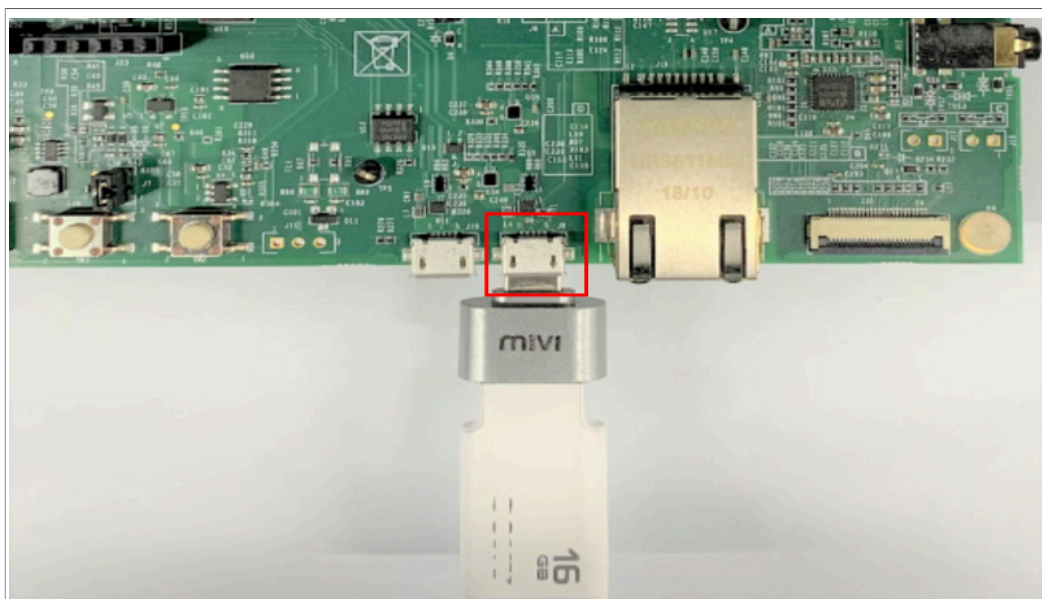

Figure 1. USB stick plugged in i.MXRT1060 EVK board
- Plug the USB stick in the USB OTG (J9) slot which is located beside the Ethernet slot on i.MX RT1060 EVK board. Since J9 is a Micro USB slot, use a USB stick with a Micro USB to USB converter. J9 slot is shown in Figure 1.